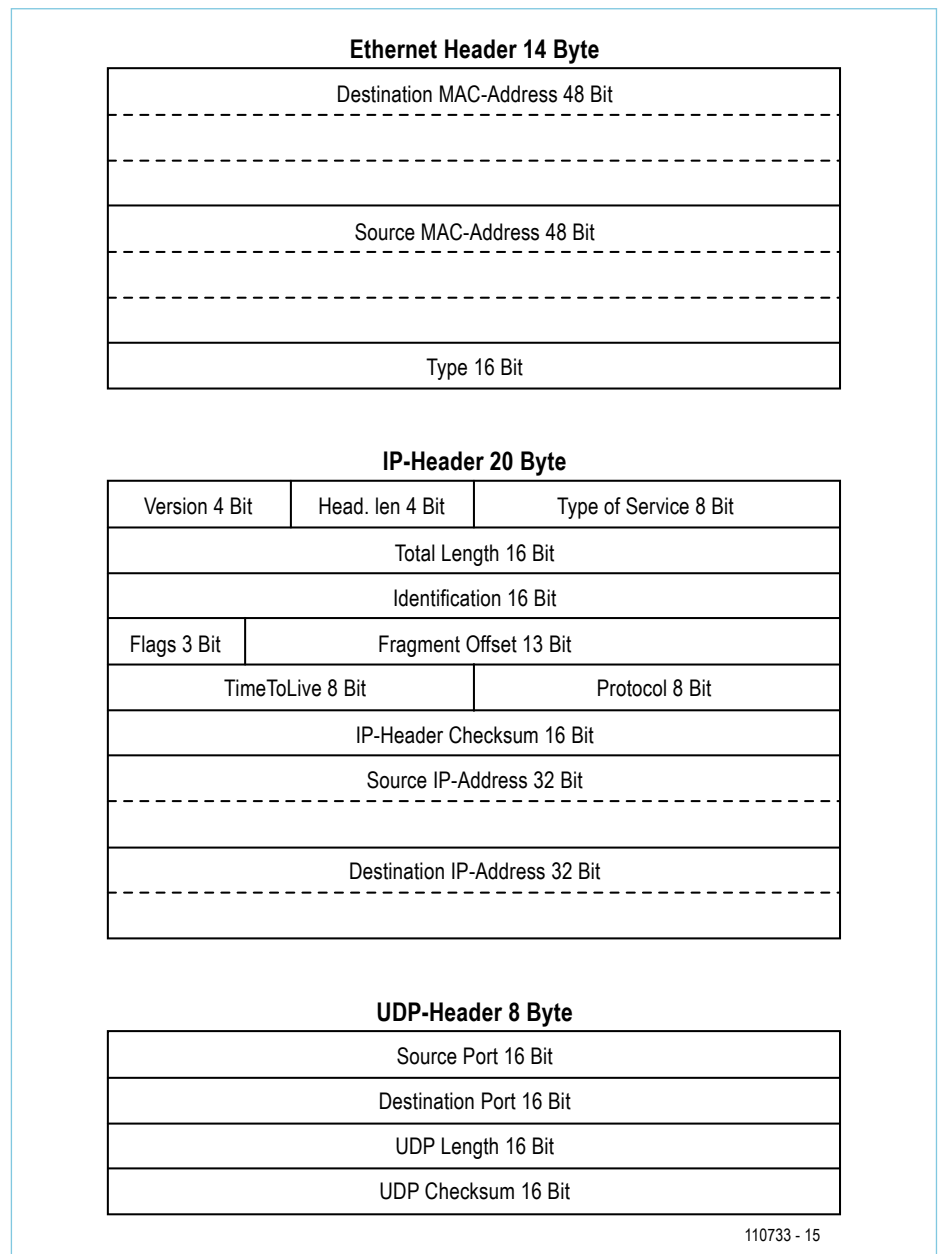

Figure 5. Ethernet header used by the SDN.
**Figure 5** shows the construction and contents of the header used here. The Ethernet-header consists of three fields. The transmitters MAC address can be freely assigned so long as it is not the same as other devices on the local net. When just one target computer is known its MAC address can be used here. Alternatively the MAC broadcast address can be used (six bytes containing 0xFF). Using this option means theoretically that any computer in the world could be the